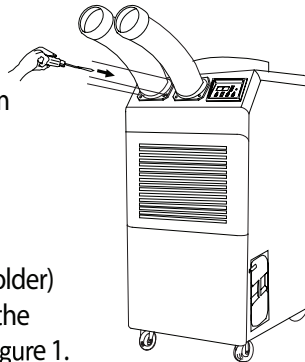

Figure 2
3. Use screws (enclosed inside of box with cool air outlet hose(s) to install the cool air outlet hose(s) on the unit as shown in Figure 2.